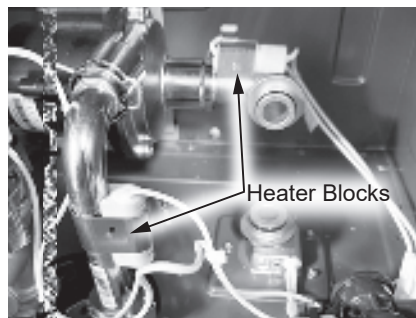

Figure 165 - Heater block locations
21 Locate the two heater blocks attached to the pump inlet elbow and the pump outlet tube as shown in Figure 165. Remove brackets (size 16) securing heater blocks to pipe connections. Place brackets aside in a safe place for reinstallation. Route heater blocks and wiring inside water heater cabinet for ease of access to water pump. See Figure 165.
33 Locate the two (2) heater blocks and brackets (size 16) previously removed in **Step 21**. Secure heater blocks to pump inlet elbow and pump outlet tube as shown in Figure 165.